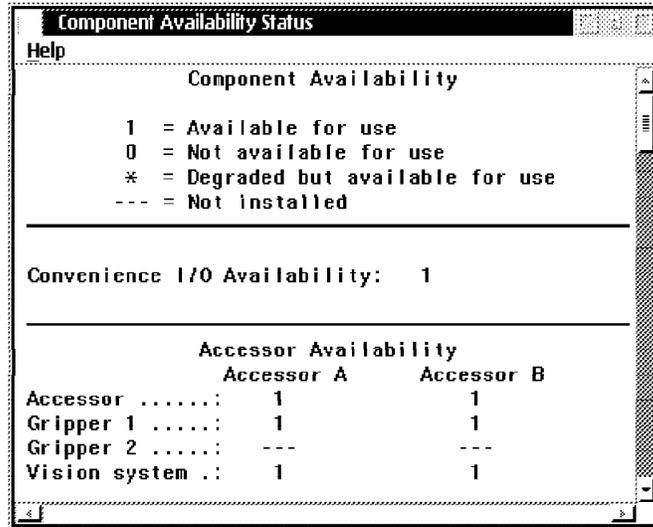
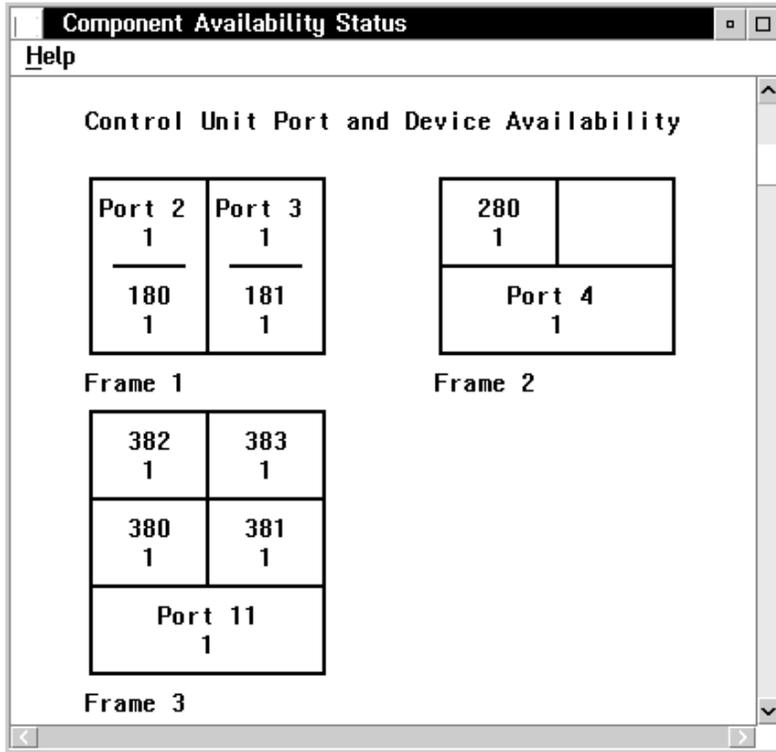
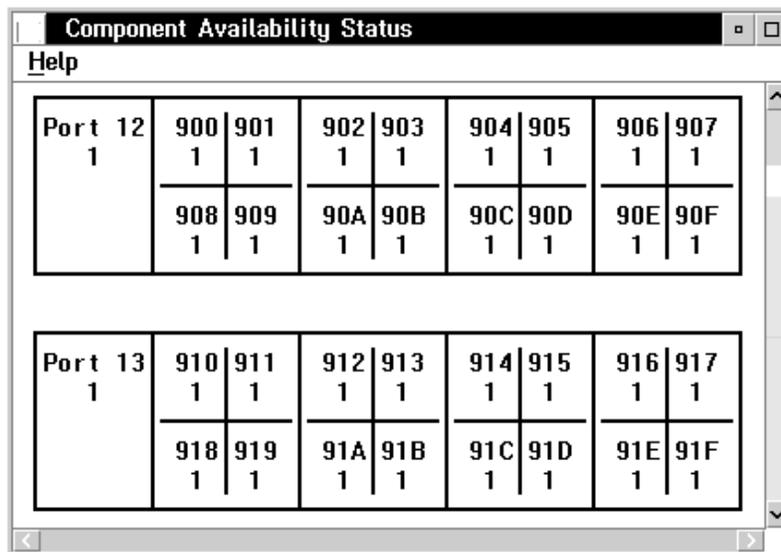
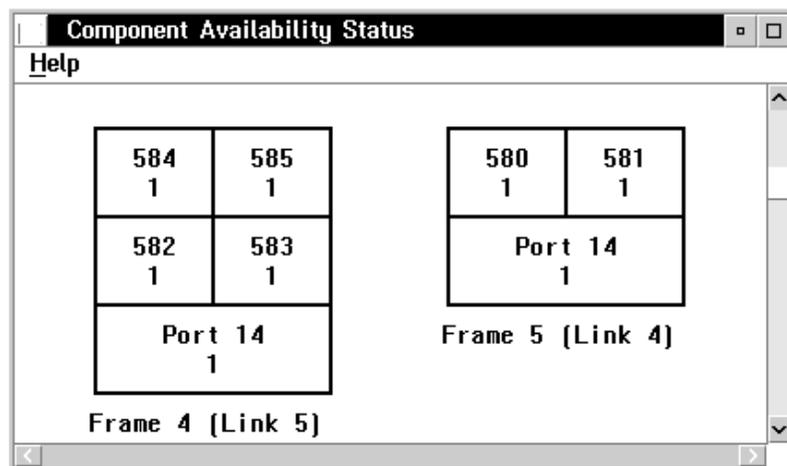

Figure 68. (Part 1 of 4) Component Availability Status Window
Figure 69. (Part 2 of 4) Component Availability Status Window
Figure 70. (Part 3 of 4) Component Availability Status Window
Figure 71. (Part 4 of 4) Component Availability Status Window
Figure 68 on page 121, Figure 69 on page 122, Figure 70 on page 122, and Figure 71 on page 123 show the Component Availability Status windows.
Figure 69 on page 122, Figure 70 on page 122, and Figure 71 show part of the tape subsystem pictorial presentation. Subsystem 1 in the figure represents the leftmost tape subsystem in the library when you face the front of the library. The control unit (CU) ports associated with that particular control unit are displayed within the box. The port's availability is shown by 1 or 0, where 1 = Available, and 0 = Not available. For the physical tape subsystems, the frame number is displayed under the port's pictorial representation. If the frame is linked to another frame, this also is displayed.
Figure 69 on page 122, Figure 70 on page 122, and Figure 71 show part of the tape subsystem pictorial presentation. A drawing of each tape subsystem is shown with the drive IDs for each drive. If a VTS library is installed, the virtual subsystems are represented by a figure that looks similar to a 16-drive 3490E tape subsystem. Each subsystem is displayed separately in the window. The drive availability is shown by 1, 0, or ---, where 1 = Available, 0 = Not available, and --- = Not installed.